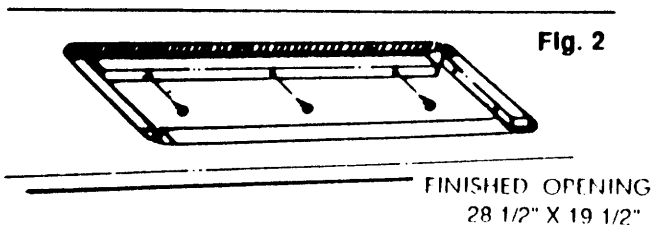

Fig. 2
- (b). Divide this remainder by two and this will give you the width of the wood pieces to be attached to the front and back of your counter top opening (See fig. 2).